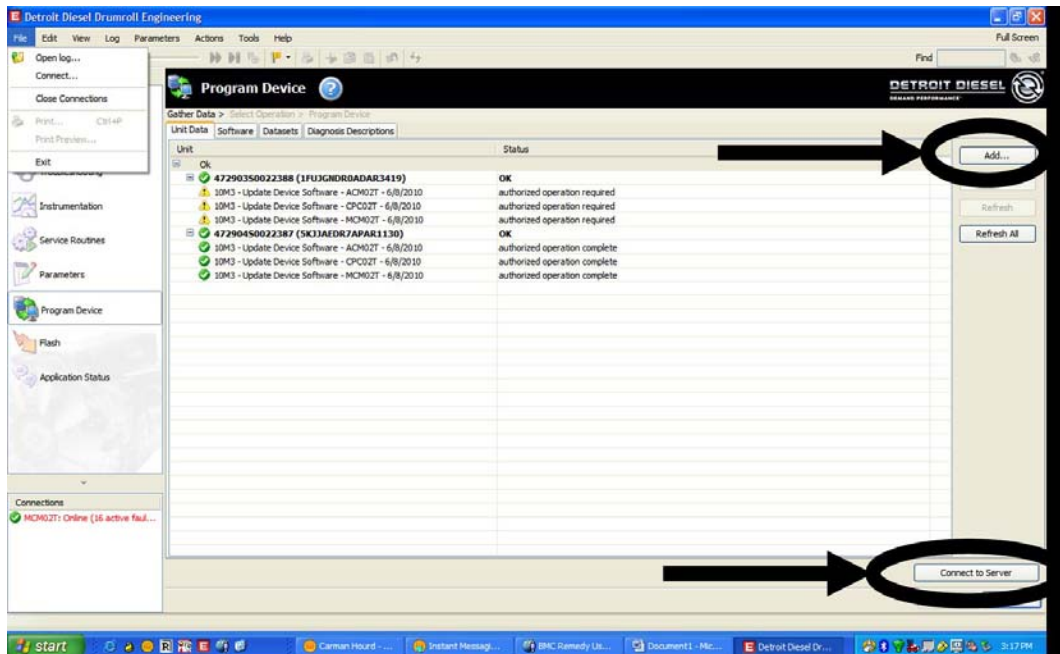

Figure 1 – Adding Engine Serial Number and Connecting To Server
7. Select the “Add” button in the upper right corner of the DiagnosticLink® screen and enter the engine serial number. Then click the “Connect to Server” button in the bottom right corner of the DiagnosticLink® screen. See Figure 1.